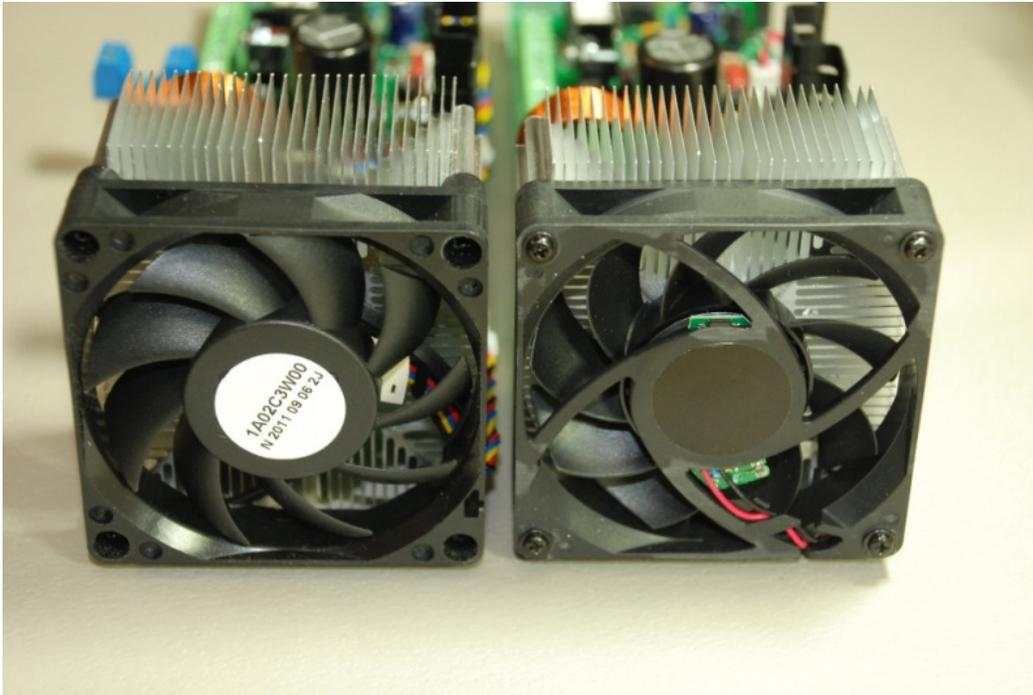

Figure 1.
6) After removing the standoffs, use the four mounting screws that were removed in Step (2) to reinstall the cooling fan against the heat sink facing the opposite direction from which it was originally installed. Attach the fan so that the red and black power wires are visible. **(See Figure 1, RIGHT.)**